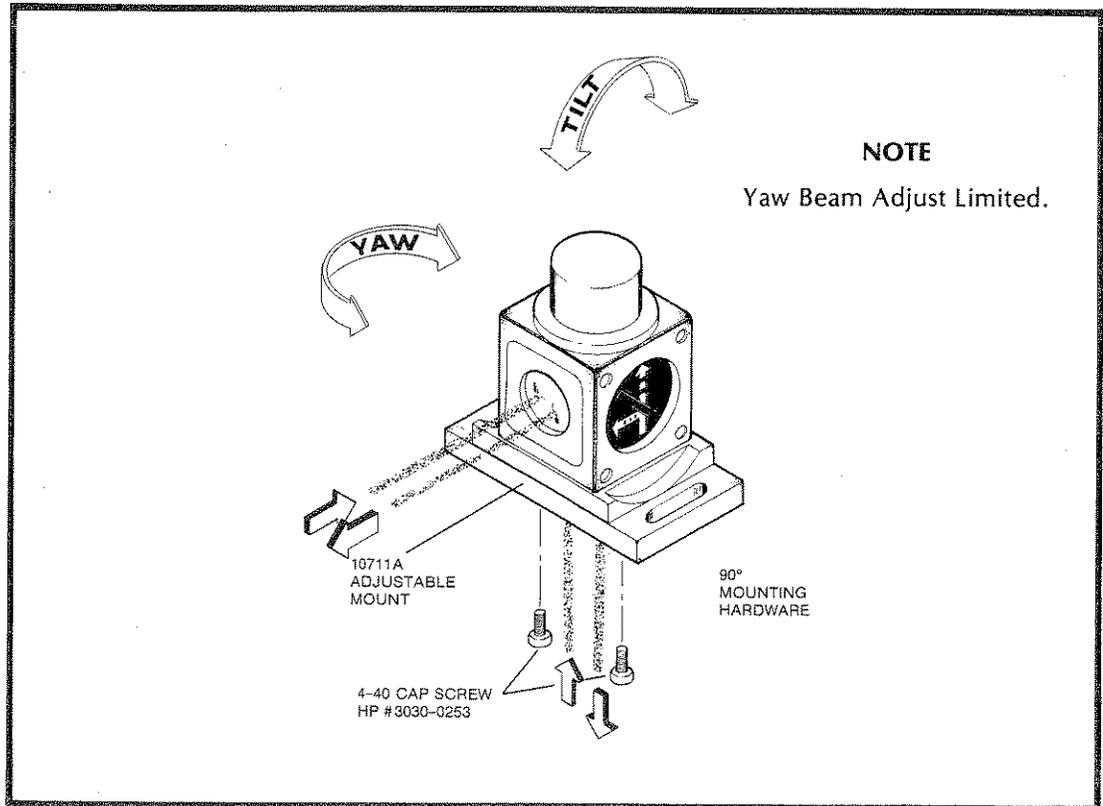

Figure 2-27. Vertical Plane Mounting Using the 10711A Adjustable Mount
- Figure 2-27* shows how to mount the linear or the plane mirror interferometer in the vertical plane using the 10711A Adjustable Mount.